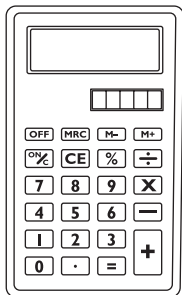

Fig. 48-1
Much time can be saved and many mistakes avoided with the use of an electronic pocket calculator for quick and easy answers. Fig. 48-1 shows a typical keyboard for a calculator. The ON/C key is used to turn the unit on or to clear the calculator when beginning a new calculation. The Equals (=) key needs to be pressed only when the final answer is required. Keys showing the letter (M) are memory keys; they allow information to be stored in memory. The MRC key recalls the value stored in memory.